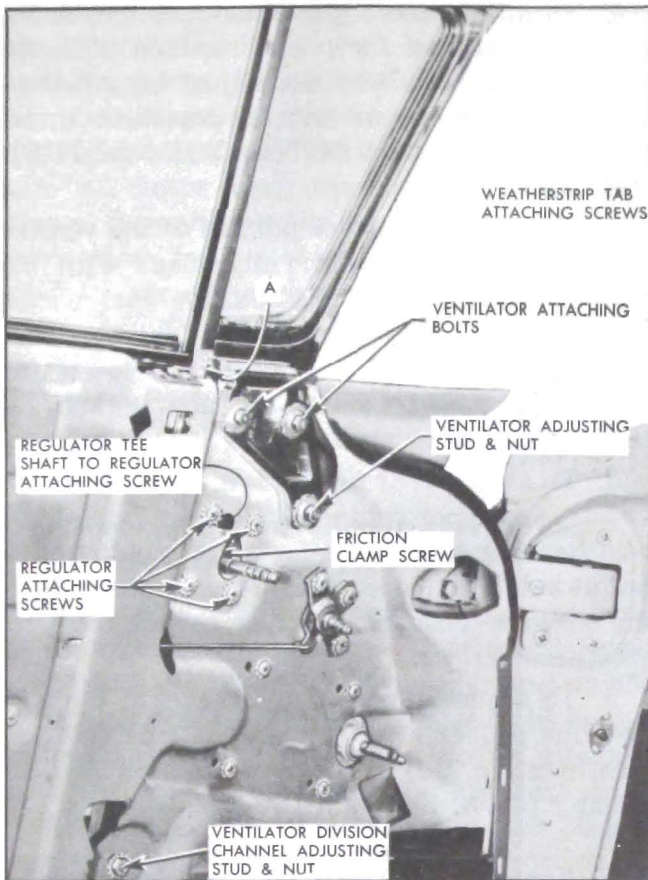

Figure 13-211—Front Door Ventilator and Ventilator Regulator
2. Remove screws, indicated in Figure 13-211, securing weatherstrip tabs to ventilator.
3. Loosen ventilator tee shaft to regulator shaft screw through access hole, shown in Figure 13-211, and loosen ventilator regulator attaching bolts.
4. Remove ventilator division channel lower adjusting stud and nut as shown in Figure 13-211.
5. Remove screw, indicated at "A", securing ventilator frame to return flange of door outer panel. Remove ventilator attaching bolts and adjusting stud and nut as shown in Figure 13-211.
2. Remove screw indicated at "A" in Figure 13-211 securing ventilator frame to return flange of door outer panel.
3. Loosen ventilator tee shaft to regulator shaft attaching screw as shown in Figure 13-211.
with the side roof rail weatherstrip, front body windshield pillar and door window, position entire ventilator assembly, as required, then tighten all attaching bolts and stud nuts as shown in Figure 13-211.
3. Remove ventilator regulator attaching screws. See Figure 13-211.
1. Excessive "play" (flutter) of the ventilator at the pivot shaft when the ventilator is in the open position can be corrected by tightening the ventilator tee shaft-to-regulator shaft screw. See figure 13-211.